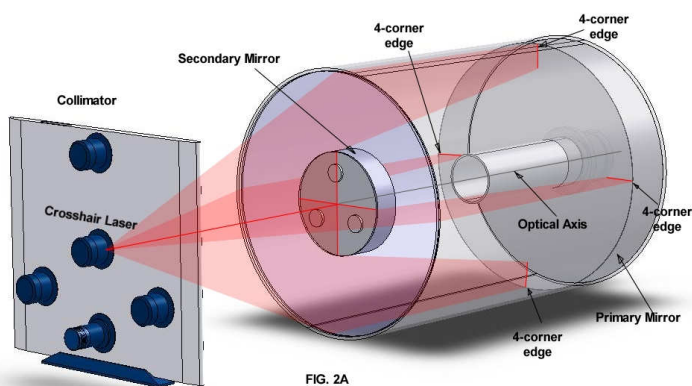
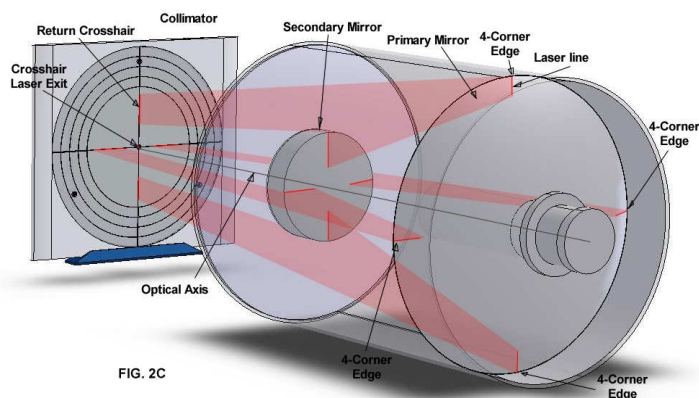

FIG. 2A
FIG. 2C
To ensure accurate aiming, you use the crosshair pattern projected from the center of the collimator as a guide to the center of the primary mirror (FIG. 2A), and the reflected crosshair from the telescope's primary mirror for aiming the telescope at the center point of the target (FIG. 2C). Please expect to spend most time on these aiming adjustments. Be patient and careful; the results will be well worth the trouble!
3. Aim collimator at telescope (FIG. 2A)
4. Aim telescope at the collimator (FIG. 2C)